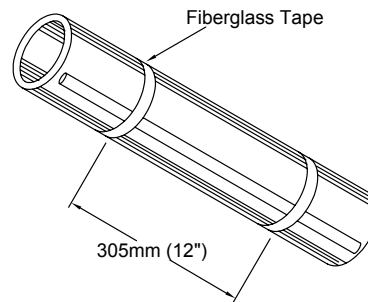

Figure 5
- 2) Aluminum foil tape should only be used if specified by design. The foil is most often used on plastic pipe to offset the insulate effect of the plastic. See the Heat Tracing Systems' Design Guide for details. See Figure 5 above.